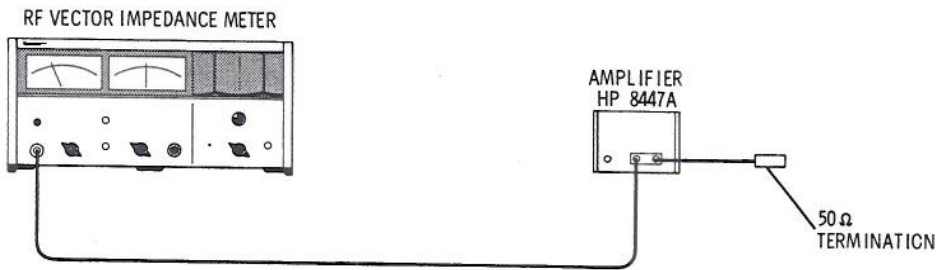

Figure 4-4. Impedance Check Test Setup, 500 kHz to 100 MHz
6. Connect the equipment as shown in Figure 4-4. Make the following controls settings: